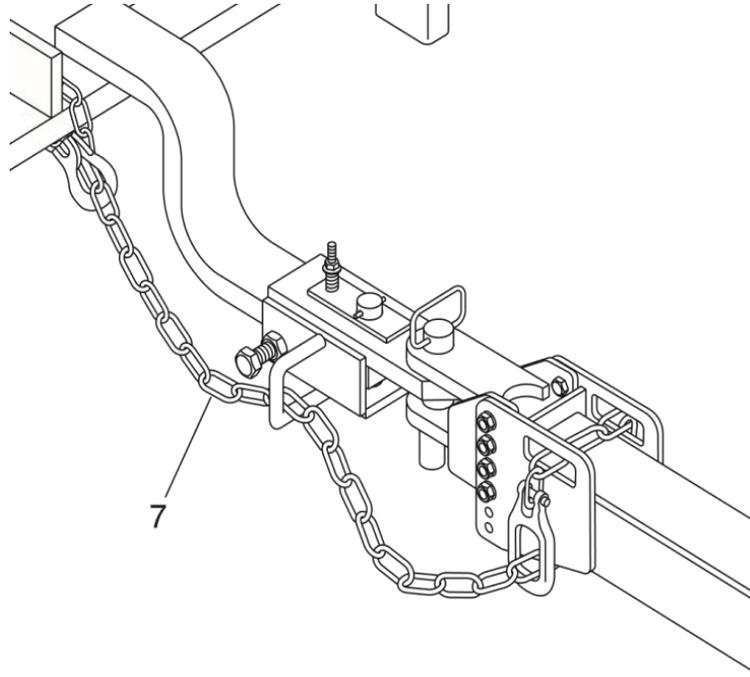

Figure 16 : Safety chain
**CAUTION:** Attach a safety chain (item 7, FIGURE 16) with a minimum capacity of 9071 kg (20 000 lbs) for transport.
- Install the safety chain (item 16) between the tractor frame and the Forage Harvester. Refer to Figure 16 : Safety chain on page Figure 16 : *Safety chain* for more information on how to install the safety chain.
5. Install nuts (item 12) on bolts (item 11) and then install bolts (item 11) on both sides of extension (item 3) as shown below.
6. Center the extension (item 3) on the draw bar (item 4). To center side to side, use the bolts (item 11). Once centered, lock the bolts in place using the nuts (item 12).
7. Insert pin (item 14) and lock with the safety pin (item 15).
**NOTE: items 14 and 15 are not supplied by the manufacturer**
8. Install the safety chain (item 16) between the tractor frame and the Forage Harvester. Refer to Figure 16 : Safety chain on page Figure 16 : *Safety chain* for more information on how to install the safety chain.